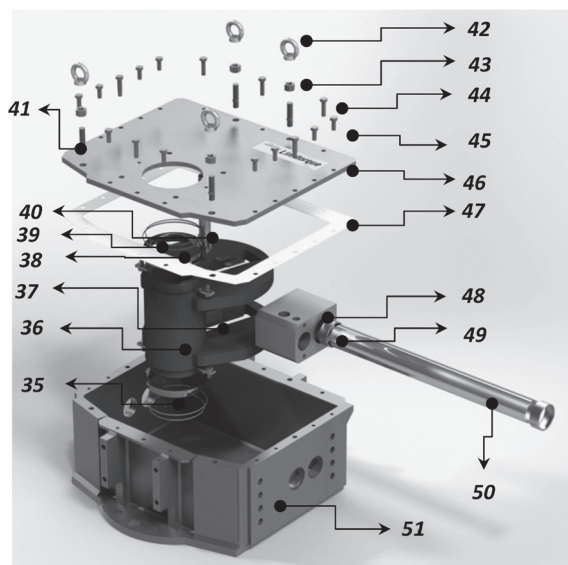

Figure 26: Exploded View of Housing
- 3.2.7 Change the adapters. Replace the adapters (54 and 55) designed for fail close (open) action, with the new ones designed for the opposite action. Take care to choose the adapter kit suitable for the Scotch yoke type in use (symmetric or canted). The guide block (48) of the symmetric Scotch yoke is marked with the “S” letter on the top face, while the guide block of the canted Scotch yoke is marked with a “C” letter on the top face, as shown in the pictures at right.
**NOTE:** The spring can adaptor (55) and cylinder adaptor (54) can be inserted in the guide block in one way only, pending on the Fail Close (CW) or Fail Open (CCW) configuration. Component numbers are referred to in Figures 26 and 27.